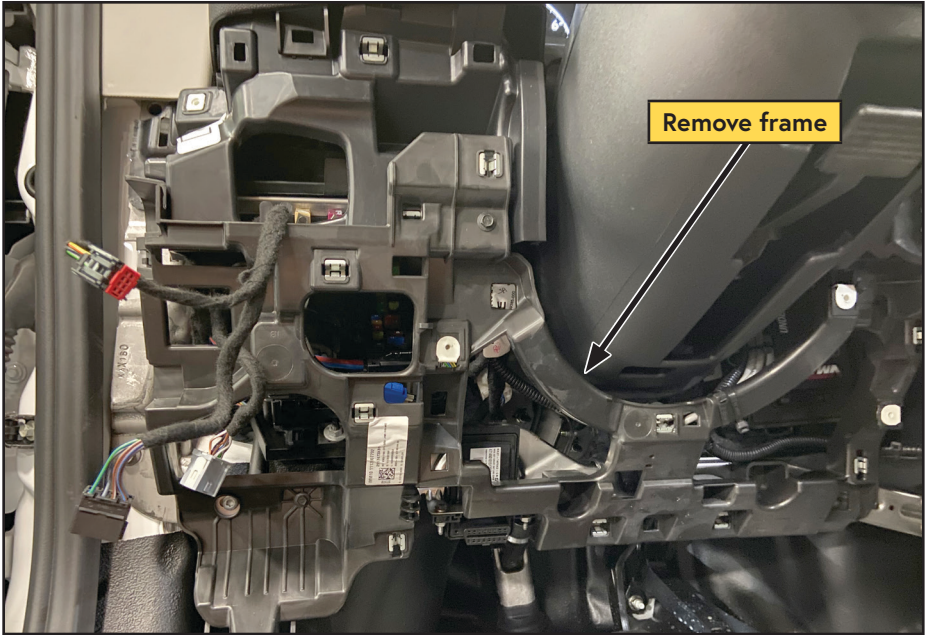

Figure 49 — Remove lower dashboard / sub frame
- Remove the plastic subframe (Figure 49).